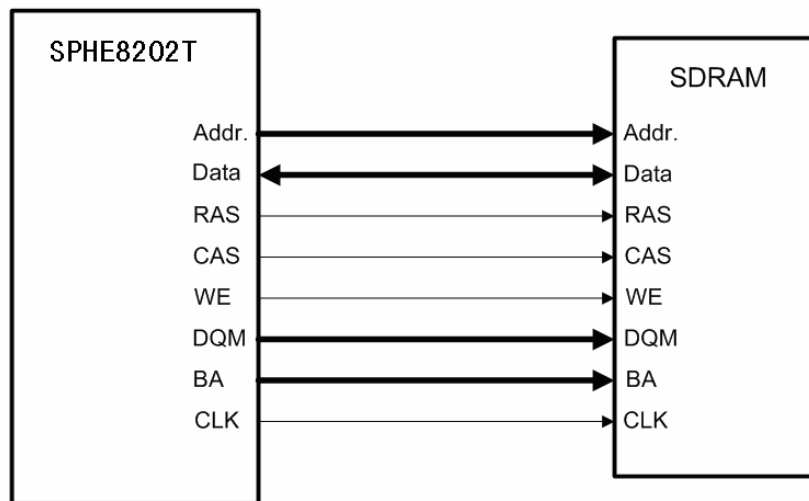

Figure 2-4 SDRAM 16-bit mode
(1) SPHE8202T support 16-bit mode , 如图 2-4。